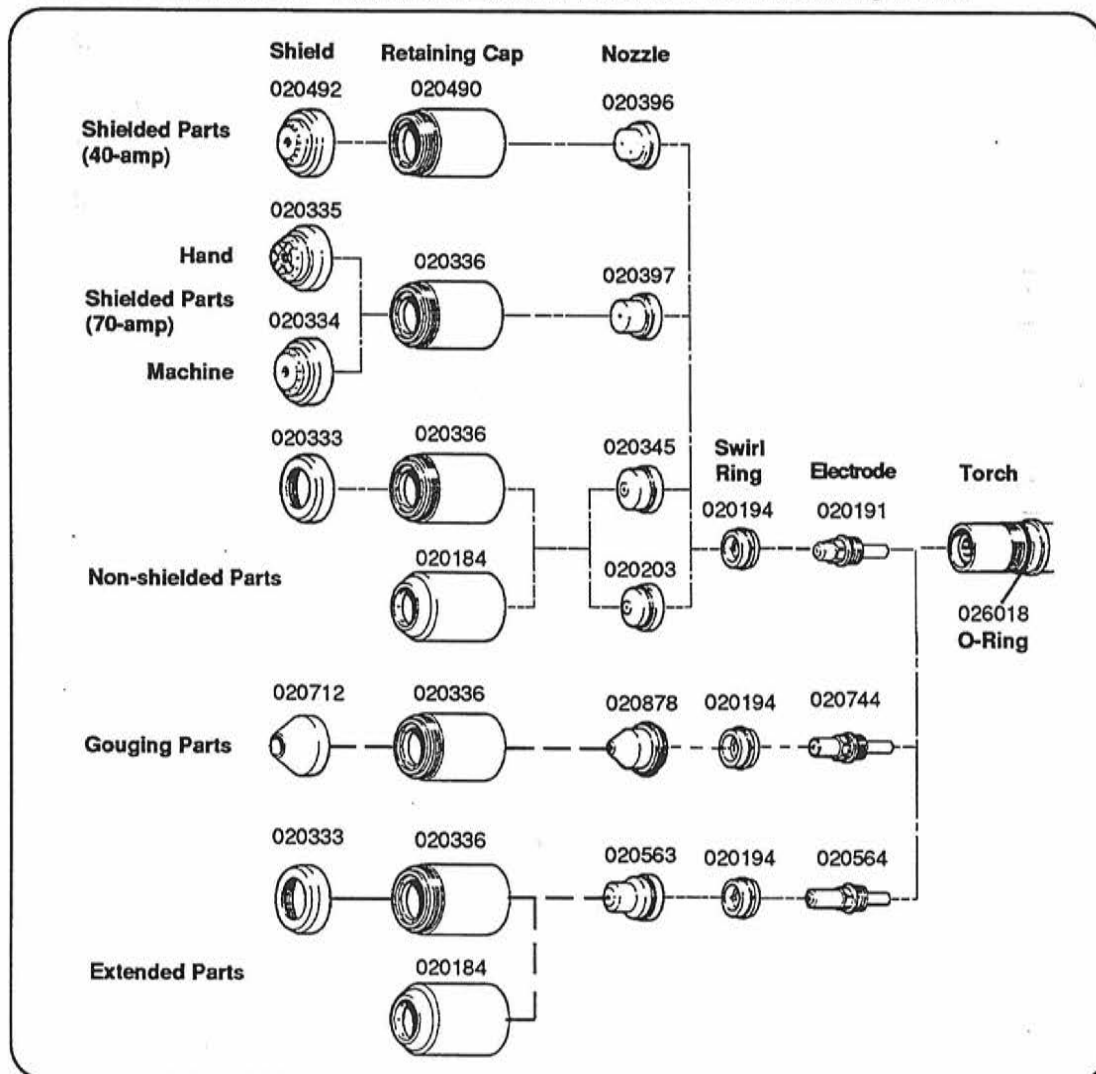

Figure 4-4 PAC130 Hand and MAX70 Machine Torch Consumable Parts
1. Ensure that the correct consumable parts are in the torch. Also, inspect for worn consumable parts (see Fig. 4-4).
To remove and replace the consumables, refer to Figure 4-4 and proceed as follows: